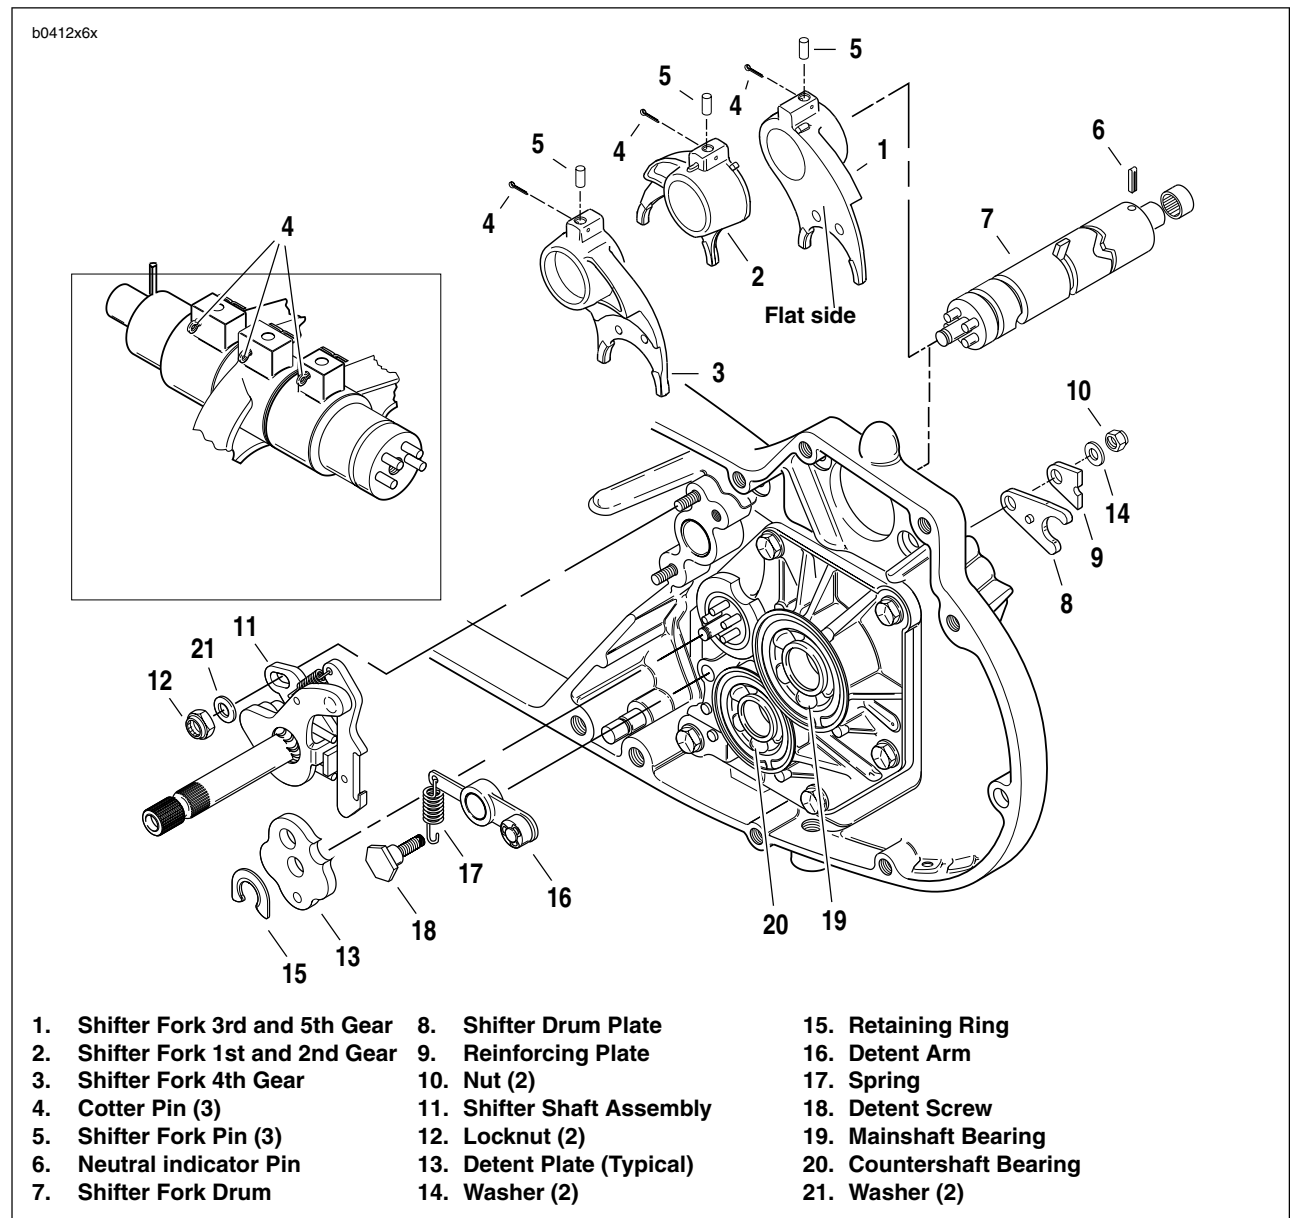
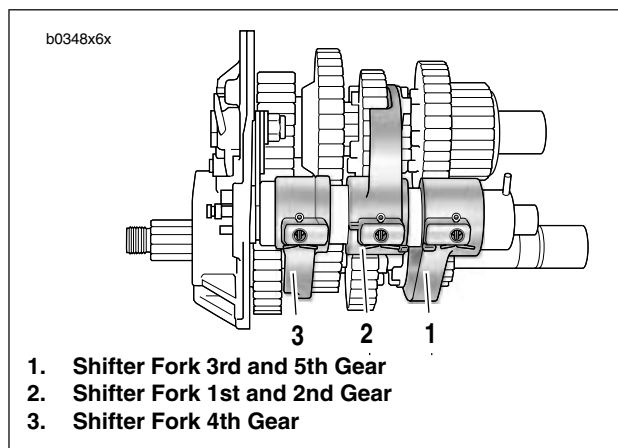

Figure 6-32. Shifter Mechanism
Figure 6-33. Shifter Fork Identification
2. See Figure 6-32. Remove nut (10), washer (14), detent screw (18), plates (8, 9), detent arm (16) and spring (17).
3. Remove and discard the three fork cotter pins (4).
4. Remove three shifter fork pins (5). A small magnet is useful in freeing the fork pins (5).
5. Slide shifter fork drum (7) away from access door, through shifter forks. The neutral indicator pin prevents removal in the other direction.
1. See Figure 6-32. Clean all parts except bearings (19, 20) with solvent.
1. See Figure 6-33. Identify all shifter forks before assembly. Note shape of fork and location of fork pin holes.
- b. Place 3rd and 5th gear shifter fork (1) in the fork groove of mainshaft 2nd gear. Be sure the flat side of fork is facing the access cover.
- c. Place 1st and 2nd gear shifter fork (2) in the fork groove of countershaft 3rd gear. Be sure the flat side of fork is facing away from the access door.
- d. Place 4th gear shifter fork (3) in the fork groove of mainshaft 1st gear. Be sure the flat side of fork is facing away from the access door.
3. See Figure 6-32. Install shifter shaft drum.
- a. Position the shifter drum shaft so that the neutral indicator pin (6) is upward. The shaft is then in the neutral position.
- b. Insert the pin end of shifter drum shaft (7) through the hubs of shifter forks (1, 2 and 3) and through the bearing in access cover.
The cotter pins must be inserted through the shifter forks as shown in Figure 6-33. This will prevent possible damage to the cotter pins.
4. See Figure 6-32. Secure shifter mechanism.
- a. Lubricate the three shifter fork pins (5) with SPORT-TRANS FLUID.
- b. Drop fork pins (5) through the holes in shifter forks.
- d. Secure shifter fork pins with **new** cotter pins (4).